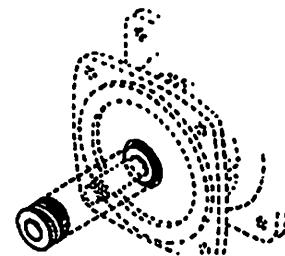

Figure 17
4. To install the rotary portion of the mechanical seal, place it over the shaft with the carbon side facing in, and press until it bottoms out against the stationary portion of the mechanical seal (See Fig. 17).